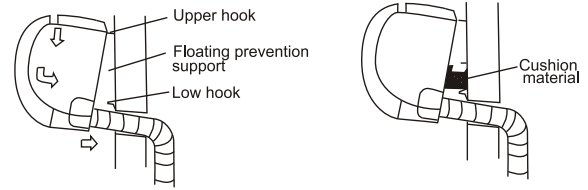

Fig.12
2. Put the upper claw at the back of the indoor unit on the upper hook of the installation plate, move the indoor unit from side to side to see that it is securely hooked (see Fig.12).